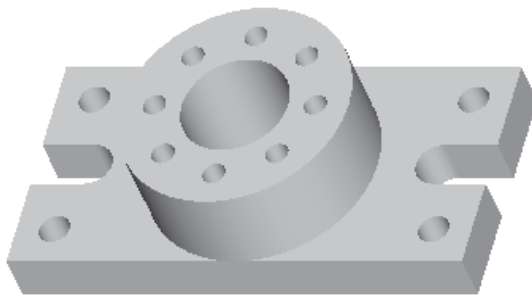

Figure 6-59 The complete model
- f. The fifth feature is also a hole feature and will be created on the top planar surface of the cylindrical feature, see Figure 6-58. A rotational pattern of this hole will be created, see Figure 6-59.
5. Enter **8** in the **Message Input Window** and press ENTER. Choose **Done** from the **EXIT** submenu. The rotational pattern is created as shown in Figure 6-59.